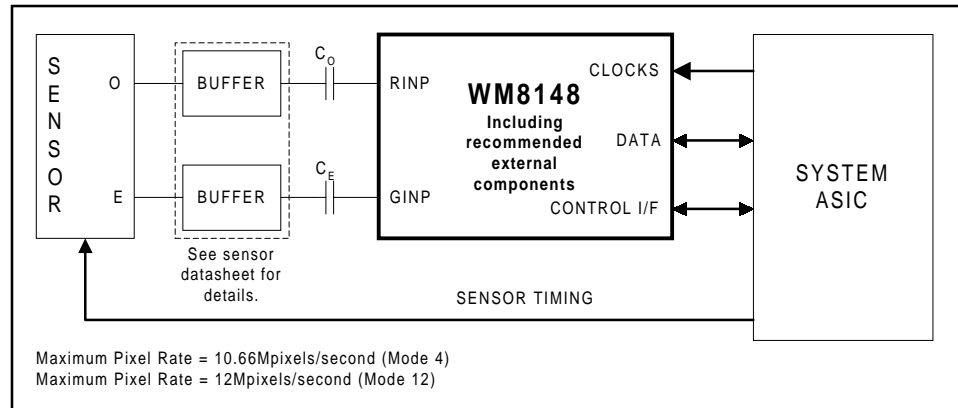

**Figure 45 Block Diagram of Monochrome CCD Application**
**Table 10 Typical Control Register Settings for Figure 45 (CDS, Negative-Going CCD Video Signal, MCLK/VSMPL = 6)**